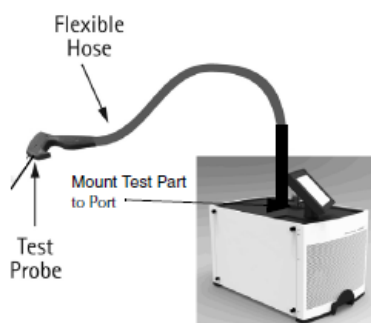

Figure 5-15 Sniffing Setup
3. Ensure that the leak detector must be in *Test* and setup for a sniffing application as shown in Figure 5-15. The test port pressure appears in the top left hand corner of the setup screen (Figure 5-14).